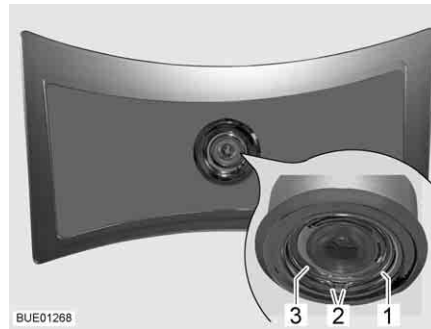

Fig. 200 Ceiling lamp
- Press the two ends (Fig. 200,2) of the spring ring (Fig. 200,1) together and remove.
- Remove the housing (Fig. 200,3) with LED from the lamp.